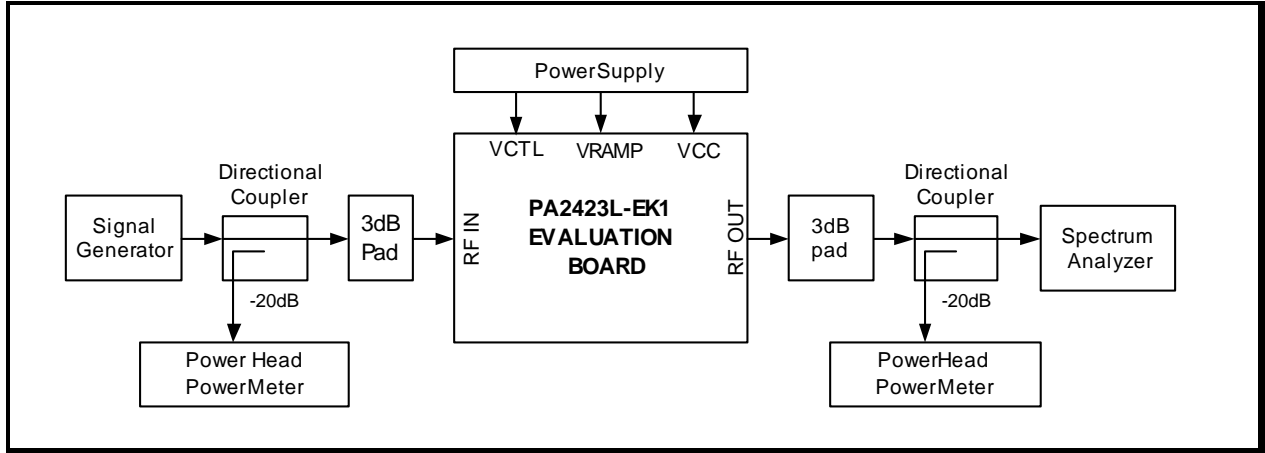

Figure 3: Test Equipment Setup for Static Measurement
- 4) Connect the evaluation board to the test equipment as shown in Figure 3.